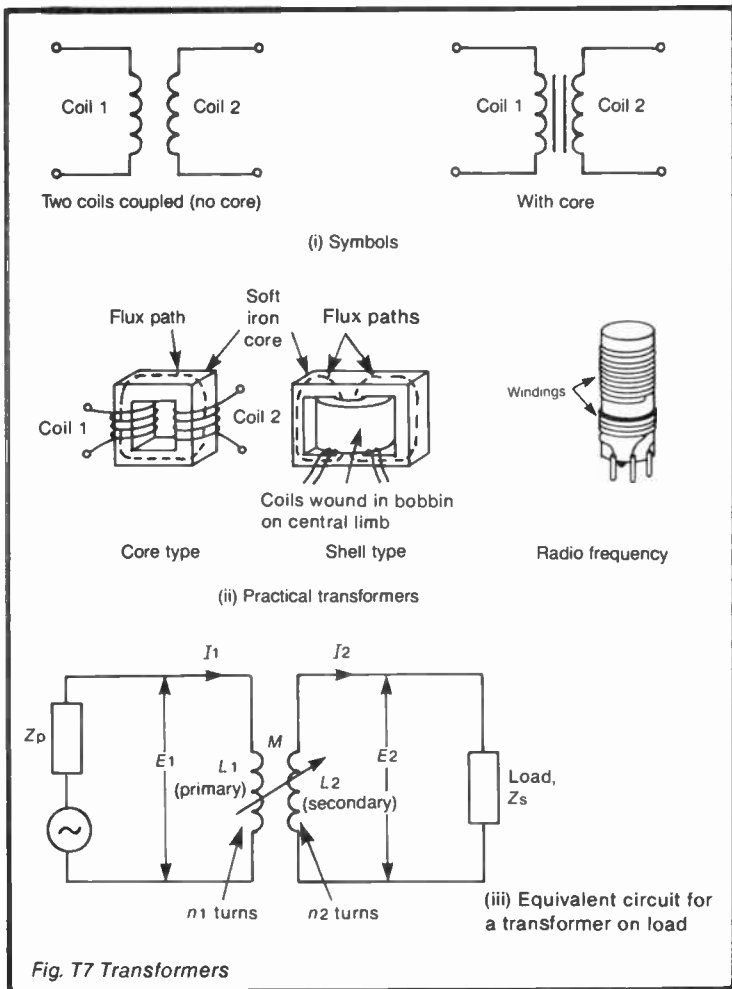

Fig. T7 Transformers
**TRANSFORMER** is an electromagnetic device which at any given frequency transforms electrical energy at one voltage to another (not necessarily different) voltage. It does this through the mutual inductance between two or more magnetically coupled coils, symbolized in Figure T7(i). Here an alternating current in coil 1 sets up a changing magnetic flux linking not only with itself but also with any other coil within its sphere of influence, e.g. coil 2. An electromotive force (e.m.f.) is therefore induced in coil 2 whenever the current changes in coil 1 and this e.m.f. is obviously at the same frequency. To reduce the reluctance of the magnetic circuit a magnetic core is often employed, the symbol is also shown in (i). Typical transformer constructions are shown in (ii). The winding connected to the supply is known as the *primary*, the other one which delivers energy to the load is called the *secondary*. There can be more than one secondary.
links with the secondary, see Figure T7(iii).
transformer as shown in Figure T7(iii) then  $Z_s/Z_p = n^2$ , i.e. the impedance ratio is equal to the square of the turns ratio.
From the above it is evident that an iron core, while useful for increasing the magnetic flux, has certain disadvantages and clearly these increase with frequency. At radio frequencies the laminated iron core creates more difficulties than it solves so cores with higher electrical resistance are used mainly to reduce eddy currents (e.g. dust cores, ceramics). Alternatively, the core may be dispensed with altogether as shown for the radio frequency transformer in Figure T7(ii). Whatever technique is used, the basic theory of the transformer remains unchanged.